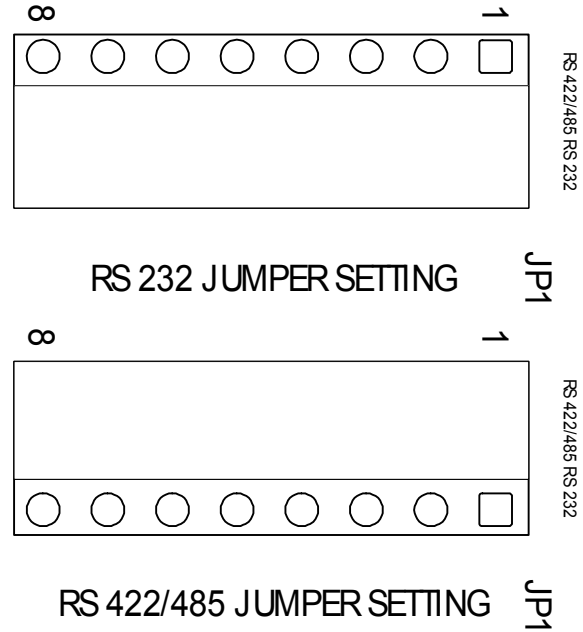

FIG. 4-3 RS-232 (DEFAULT), RS422/485 JUMPER SETTINGS
- Step 5. The factory default position is for the RS-232 setting. (See Fig. 4-3) The dip switches do not function when in the RS-232 configuration.
Step 6. To select the RS 422/485 ports, move the jumper to the RS 422/485 position. (See Fig. 4-3)